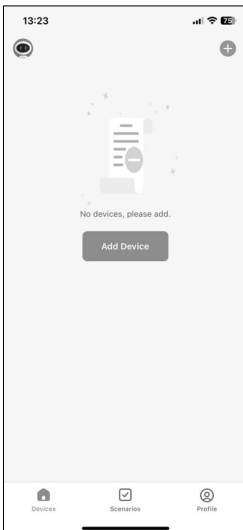

Fig. 1
- ▶ If you have not yet registered a device in the MEDION Life+ app, tap the **ADD DEVICE** button (Fig. 1).